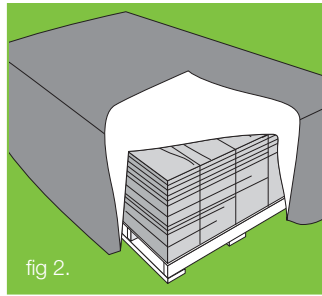

fig 2.
- Protected with a waterproof covering, if storage outside is unavoidable (figure 2)